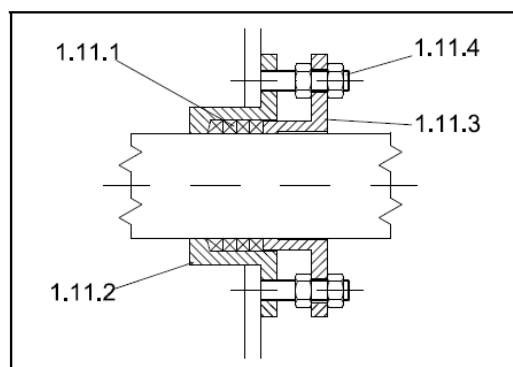

Fig. 9: Gland
- Loosen the front part (pos. 1.11.3, fig. 9) of the gland and slide it on the shaft in the direction of the pedestal bearing.
- Change the gasket (pos. 1.11.1, fig. 9).
- Fix the nuts in place using locknuts (pos. 1.11.4, fig. 9).